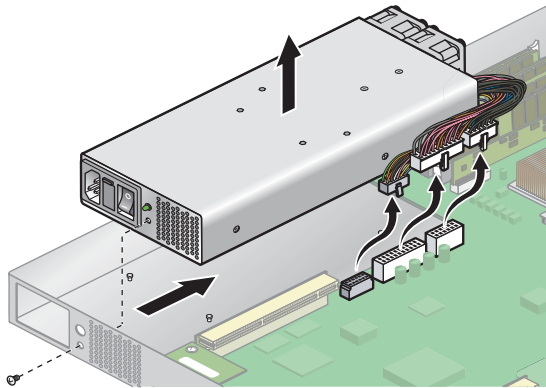

FIGURE 4-19 Removing the Power Supply
4. Unfasten the single screw securing the power supply to the rear of the chassis (see FIGURE 4-19).